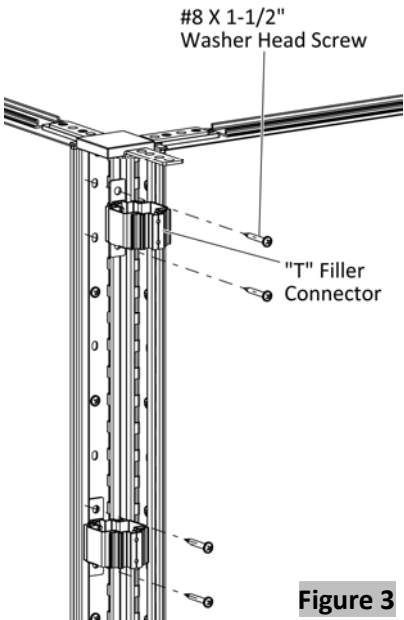

Figure 3
- 5. Position "T" filler connector at desired location, (Figure 3).